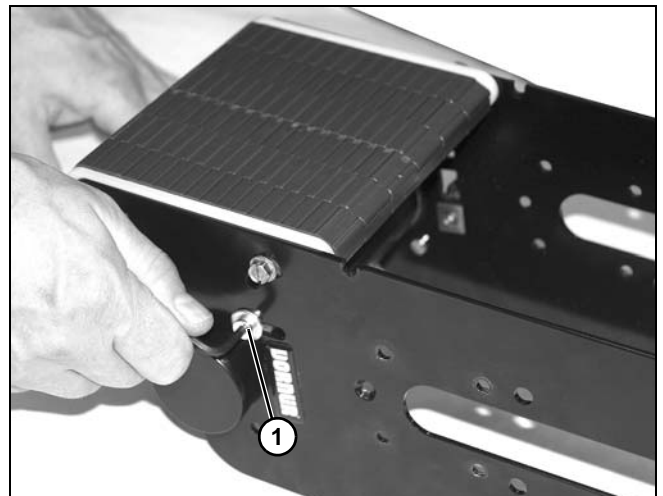

Figure 120
12. Loosen socket head screw (**Figure 120, item 1**) on tensioning rod on each side of transfer tail.